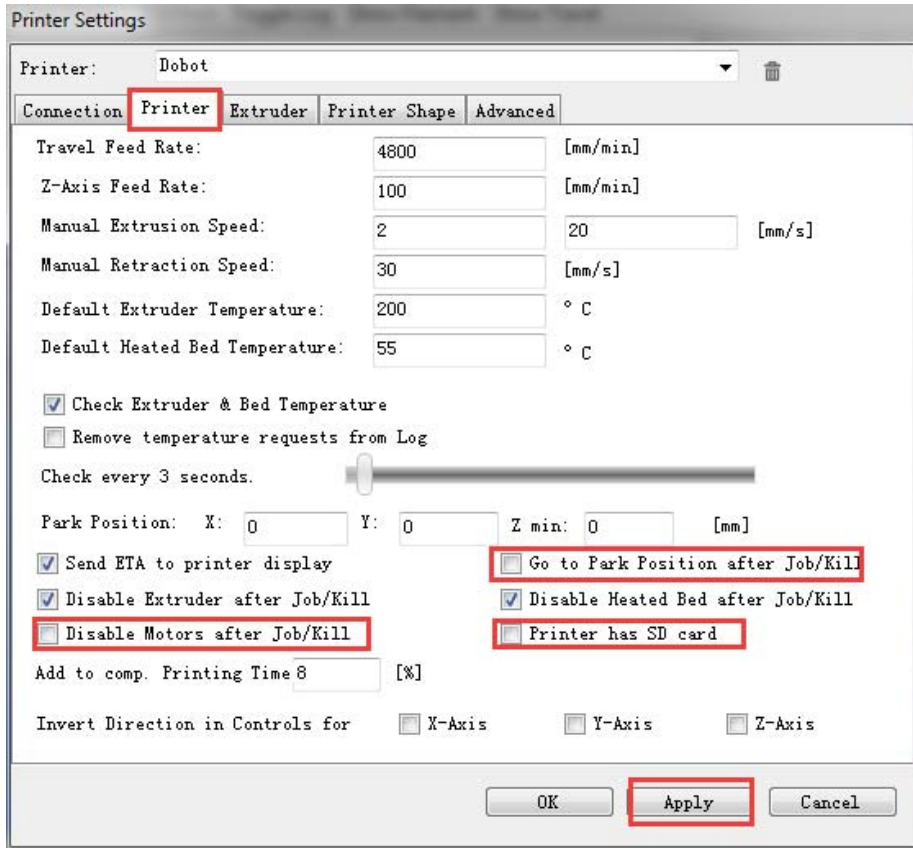

Figure 5.128 Unselect options
4. Unselect the corresponding options on the **Printer** tab as shown in the red box of, Figure 5.128 and the other parameters are set by default. Then, click **Apply**.